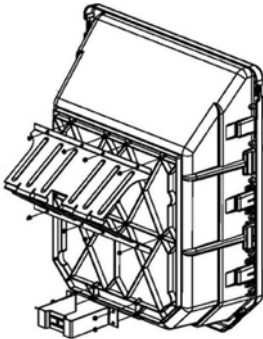

Fig. 1
3. Secure front support (28) and axle mount (29) to cart w/5/16" x 1 1/2" HHC and 5/16" nuts. **(Fig. 1)**